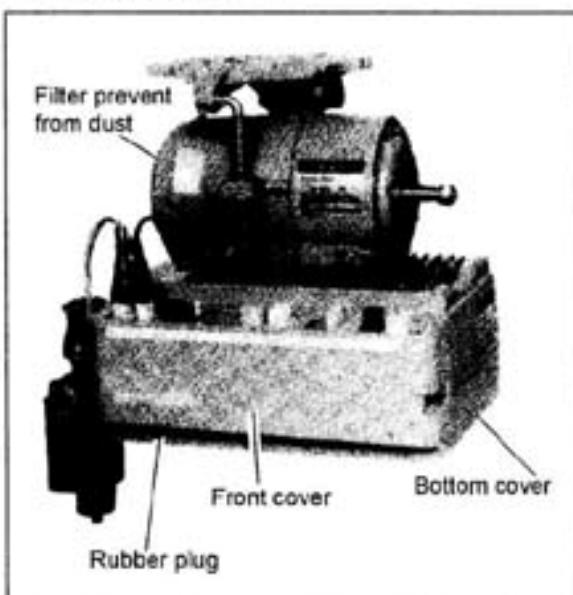

Fig.16
15. Handling instructions (Motor and control box) (Fig.16):
- 8) When manipulating the switch in the control box, first turn off the power switch, then open the front cover (Fig. 16). If you have to open the bottom cover, wait for 10 minutes after the power switch has been turned off, since a high voltage is applied inside the box. (This is vital to discharge the built-in capacitors).